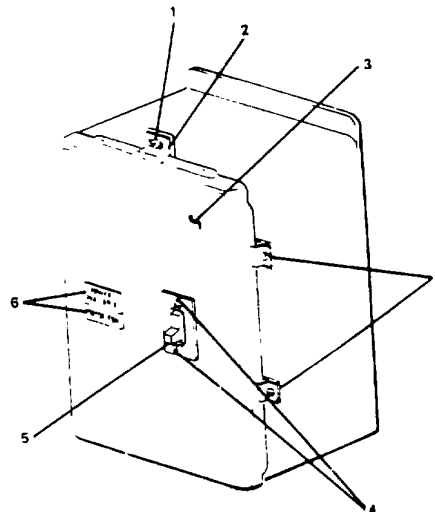

Figure 2-82. Motor Controller (Weld Hood Exhaust Fan).
- a. Remove lens cover and lamps (6, Figure 2-82) from indicator.
- b. Loosen screws (1) until clamp (2) clears lip of door (3). Rotate clamp (2) clear of door lip. Open door (3).
- c. Tag and disconnect electrical wiring to starter (5).
- d. Remove screws (5) holding starter (5) to door (3). Remove starter.